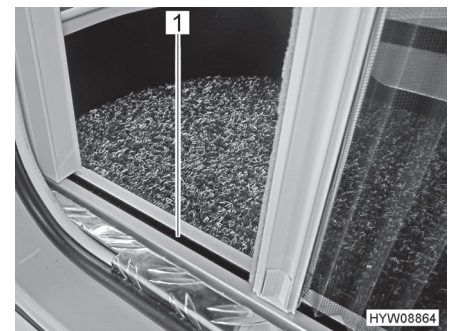

Fig. 58 Insect screen (bottom guide)
- ▷ Hold holding bar with both hands when closing or opening. This reduces the risk of the insect screen getting stuck in the guides (Fig. 58,1).